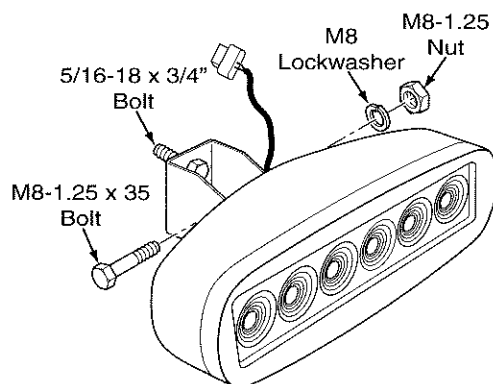

Figure 1. Assemble Mounting Brackets
2. Identify the mounting brackets supplied with each light assembly included in this kit. Install (1) one 5/16-18 x 3/4" bolt into the mounting bracket as shown in Figure 1. Using the hardware provided with each light assembly, install (1) one mounting bracket onto each light and secure using (1) one M8-1.25 x 35 hex head bolt, (1) one M8 lockwasher and (1) one M8-1.25 nut. See Figure 1. Do not tighten hardware at this time.